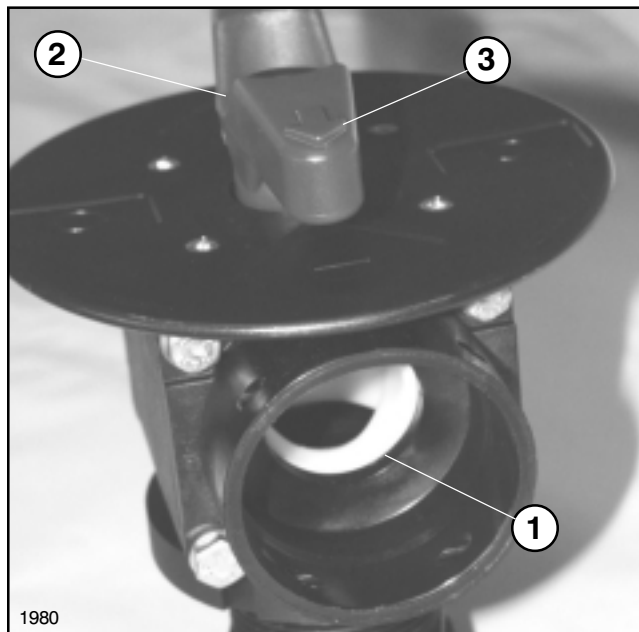

FIG. 4
5. Verify that the arrow on the Three-Way Valve handle is in line with the large hole in the ball inside the Valve. If not, remove the screw from the center of the handle and reorientate the handle. Replace screw. See FIG.4.